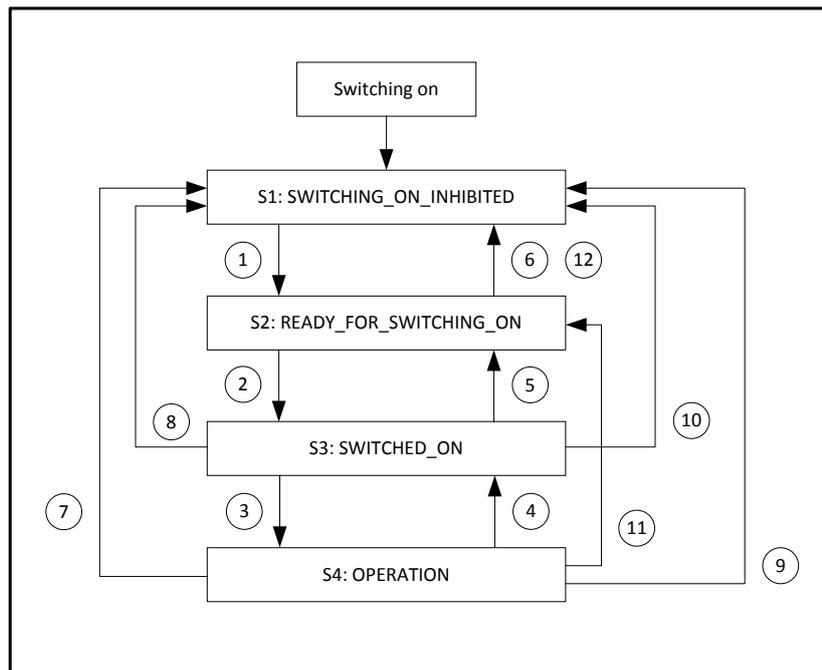

Figure 9-1: Simplified state diagram
The states have been taken over to a large extent from the PROFIdrive specification. PROFIdrive distinguishes between a ramp stop and a quick stop. The controller enabling is deactivated in both cases so that the simplified state diagram shown in Figure 9-1 results.
- 3.) According to the state diagram (Figure 9-1), state transitions 1, 2 and 3 have to be performed.